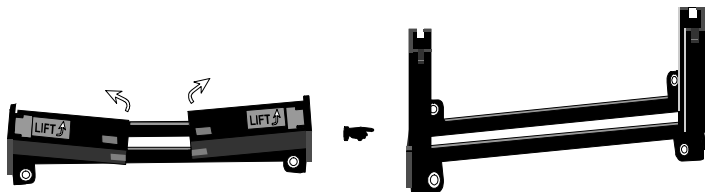

Figure 6
- ① First, please refer to figure 6 below, and follow the direction to lift up the fixed foldable pentium® II/III Retention Mechanism. This pre-installed device is designed for you to install Pentium® II/III CPU more easier and to avoid any damage on the board due to overtightening the four screws.
- ② One thing must be kept in your mind that please make sure to lift upright the foldable parts of the Retention module to fit and install CPU properly.
Figure 7 shows the layout of Slot 1 and the holes for mounting the Heatsink base piece (figure 6).